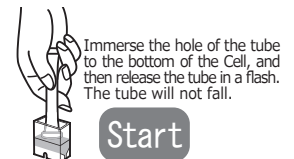

Fig.5
4. Submerge the aperture of the tube in the sample, and the release your finger to suck the whole amount of the sample at once. At the same time, press [Start]. (Fig.5)